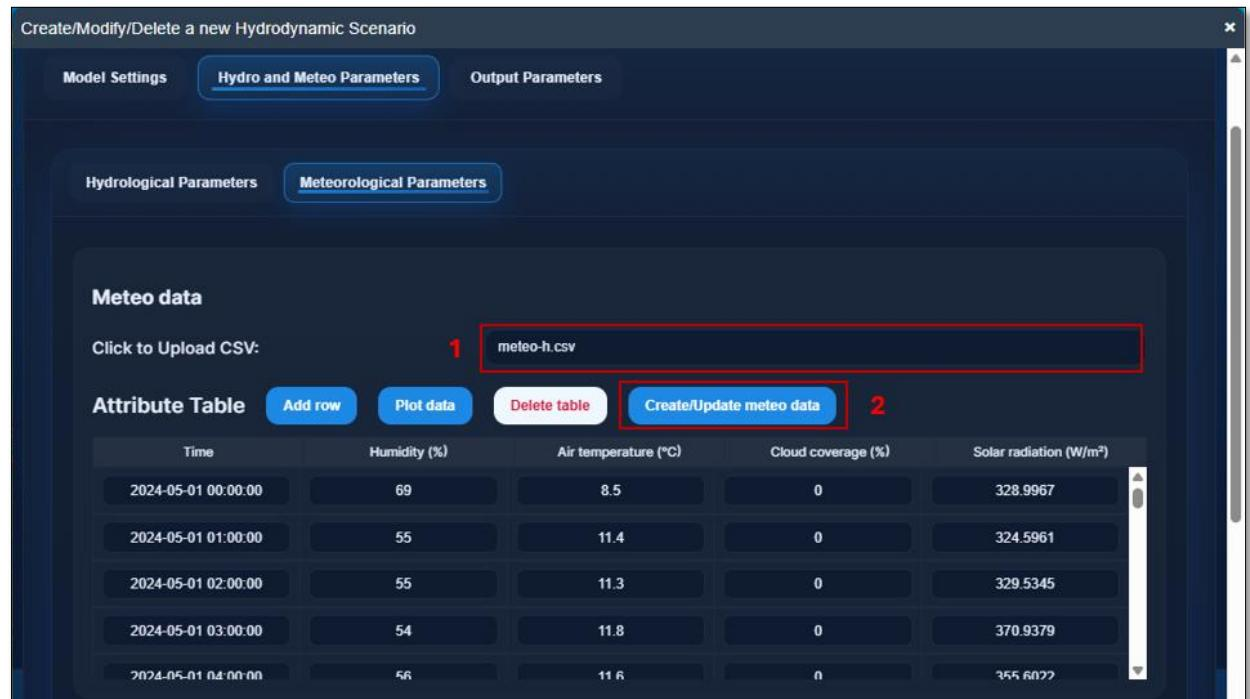

Figure 2.27. Upload meteorological data
- ❖ *Meteorological Parameters:* The user can create meteorological data by importing it from a CSV file (**Figure 2.27**). The steps below show how to upload a CSV file: